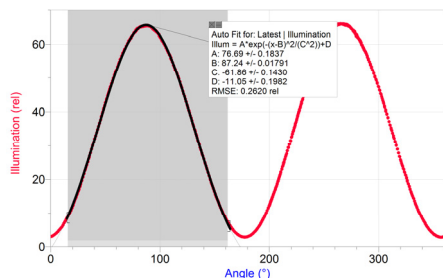

Figure 3 Selection for fits
- **Statistics:** To simply get the angle with the highest illumination, highlight the peak of interest in *Logger Pro* or LabQuest App, as shown in Figure 3. Choose Statistics from the Analyze menu. Record the angle value where the illumination is at a maximum, as presented in the box. This method is the fastest and will result in reproducibility of the angle of rotation measurement of  $\pm 2.0^\circ$ .
- **Gaussian:** To improve your accuracy with a better fit, highlight the peak of interest using *Logger Pro* or LabQuest App as shown in Figure 3. Then, choose Curve Fit from the Analyze menu. From the list of available Equations, select Gaussian. Select Try Fit in *Logger Pro*; in LabQuest App, the fit will run automatically. The B coefficient presented represents the angle at maximum illumination. This method will result in reproducibility of the angle of rotation measurement of  $\pm 0.3^\circ$ . The data are not a true Gaussian, but the ease and